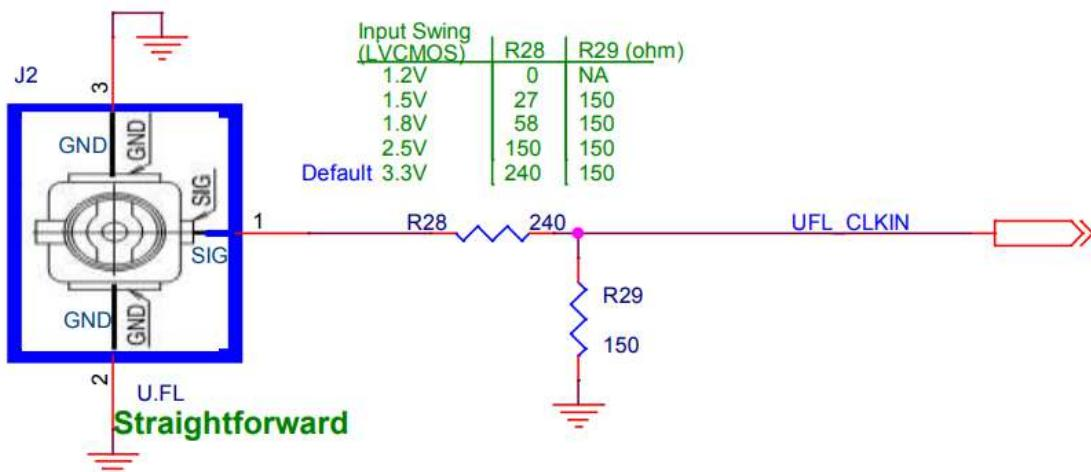

Figure 2-21 U.FL clock input signal level setting
**\*(1):** The I/O standard of the **UFL\_CLKIN** clock input from J1 to the FPGA needs to be **1.2V**. If the input clock I/O standard from the J1 exceeds 1.2V, it should be divided to 1.2V by using two series resistors (R28 and R29). **Figure 2-21** shows that in the case of different input clock voltage level, the corresponding resistance value settings for R13 and R28 are required.